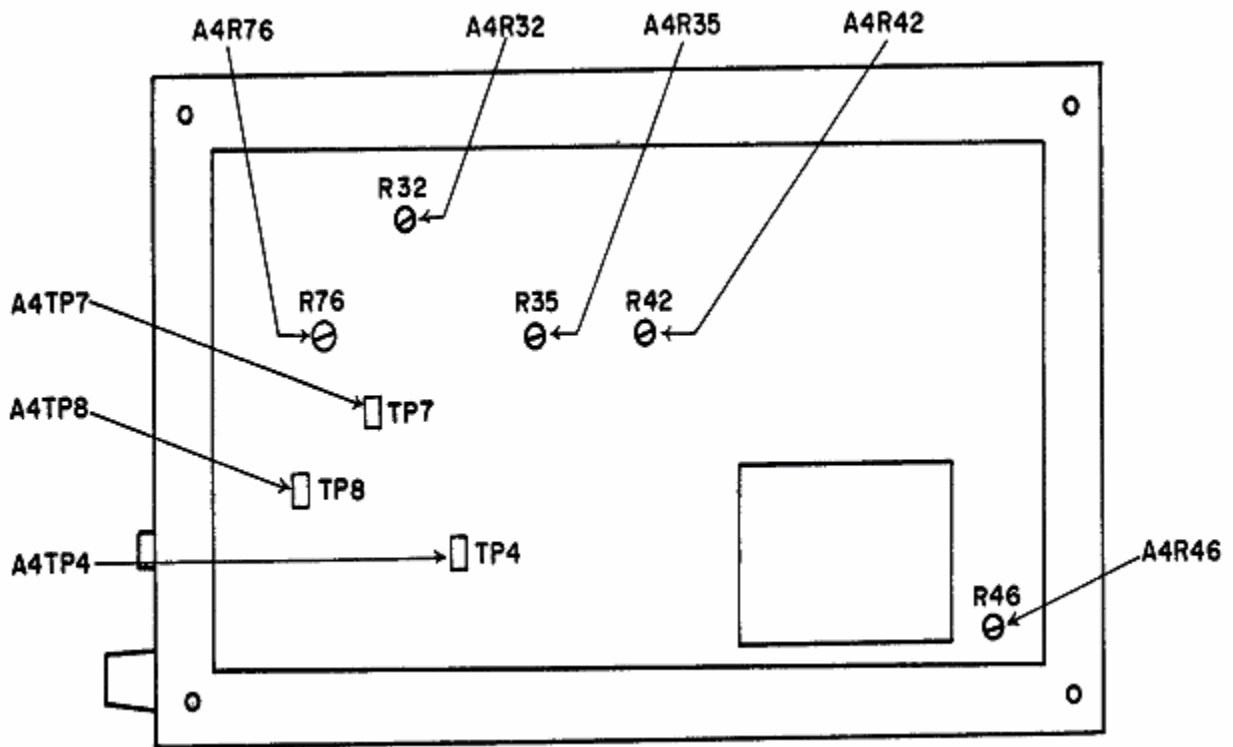

Figure 2. Model 435A - right view.
- (1) Adjust A4R35 (fig. 2) for a 1 V indication on TI meter.
- (2) Set TI **LINE** switch to **OFF**. If TI meter does not indicate **0** (zero), adjust to **0** using adjustment screw located below meter face.
- (3) Set switches as listed in (a) through (d) below:
(4) Set range calibrator switches as listed in (a) through (c) below:
(5) Connect frequency counter between A4TP8 (fig. 2) and ground. If frequency counter does not indicate between 204 and 236 Hz, for model 435A, or between 208 and 232 Hz for model 435B, perform (6) through (10) below. If frequency counter is within limits, proceed to (11) below.
- (a) Establish a horizontal grid line as dc average of test point A4TP4 (fig. 2) by setting range calibrator **FUNCTION** switch to **STANDBY**.
- (10) Adjust A4R76 (fig. 2) until zero crossover lags the square wave 150  $\mu$ s (R).
- (11) Repeat (3) above.
- (12) Position A4R46 (fig. 2) to its mechanical center position.
- (13) Adjust A4R32 (fig. 2) until multimeter indicates  $0 \pm 0.2$  mV dc (R).
- (14) Set range calibrator **FUNCTION** switch to **CALIBRATE** and TI range to **1 mW**.
- (15) Adjust **CAL ADJ** until multimeter indicates  $1,000 \pm 1$  mV dc.
- (16) Adjust A4R35 (fig. 2) until TI meter indicates full scale (R).
- (17) Set range calibrator to **STANDBY**.
- (18) Set **RANGE** switch to **3  $\mu$ W** and press and hold **ZERO** switch. Adjust A4R42 (fig. 2) until multimeter indicates 0 mV dc (R). Release **ZERO** switch.
- (19) Set TI **RANGE** switch to **1 mW**.
- (20) Set range calibrator **FUNCTION** switch to **CALIBRATE**.
- (21) Press and hold **ZERO** switch. Adjust A4R46 (fig. 2) until multimeter indicates 961 mV dc (R). Release **ZERO** switch.